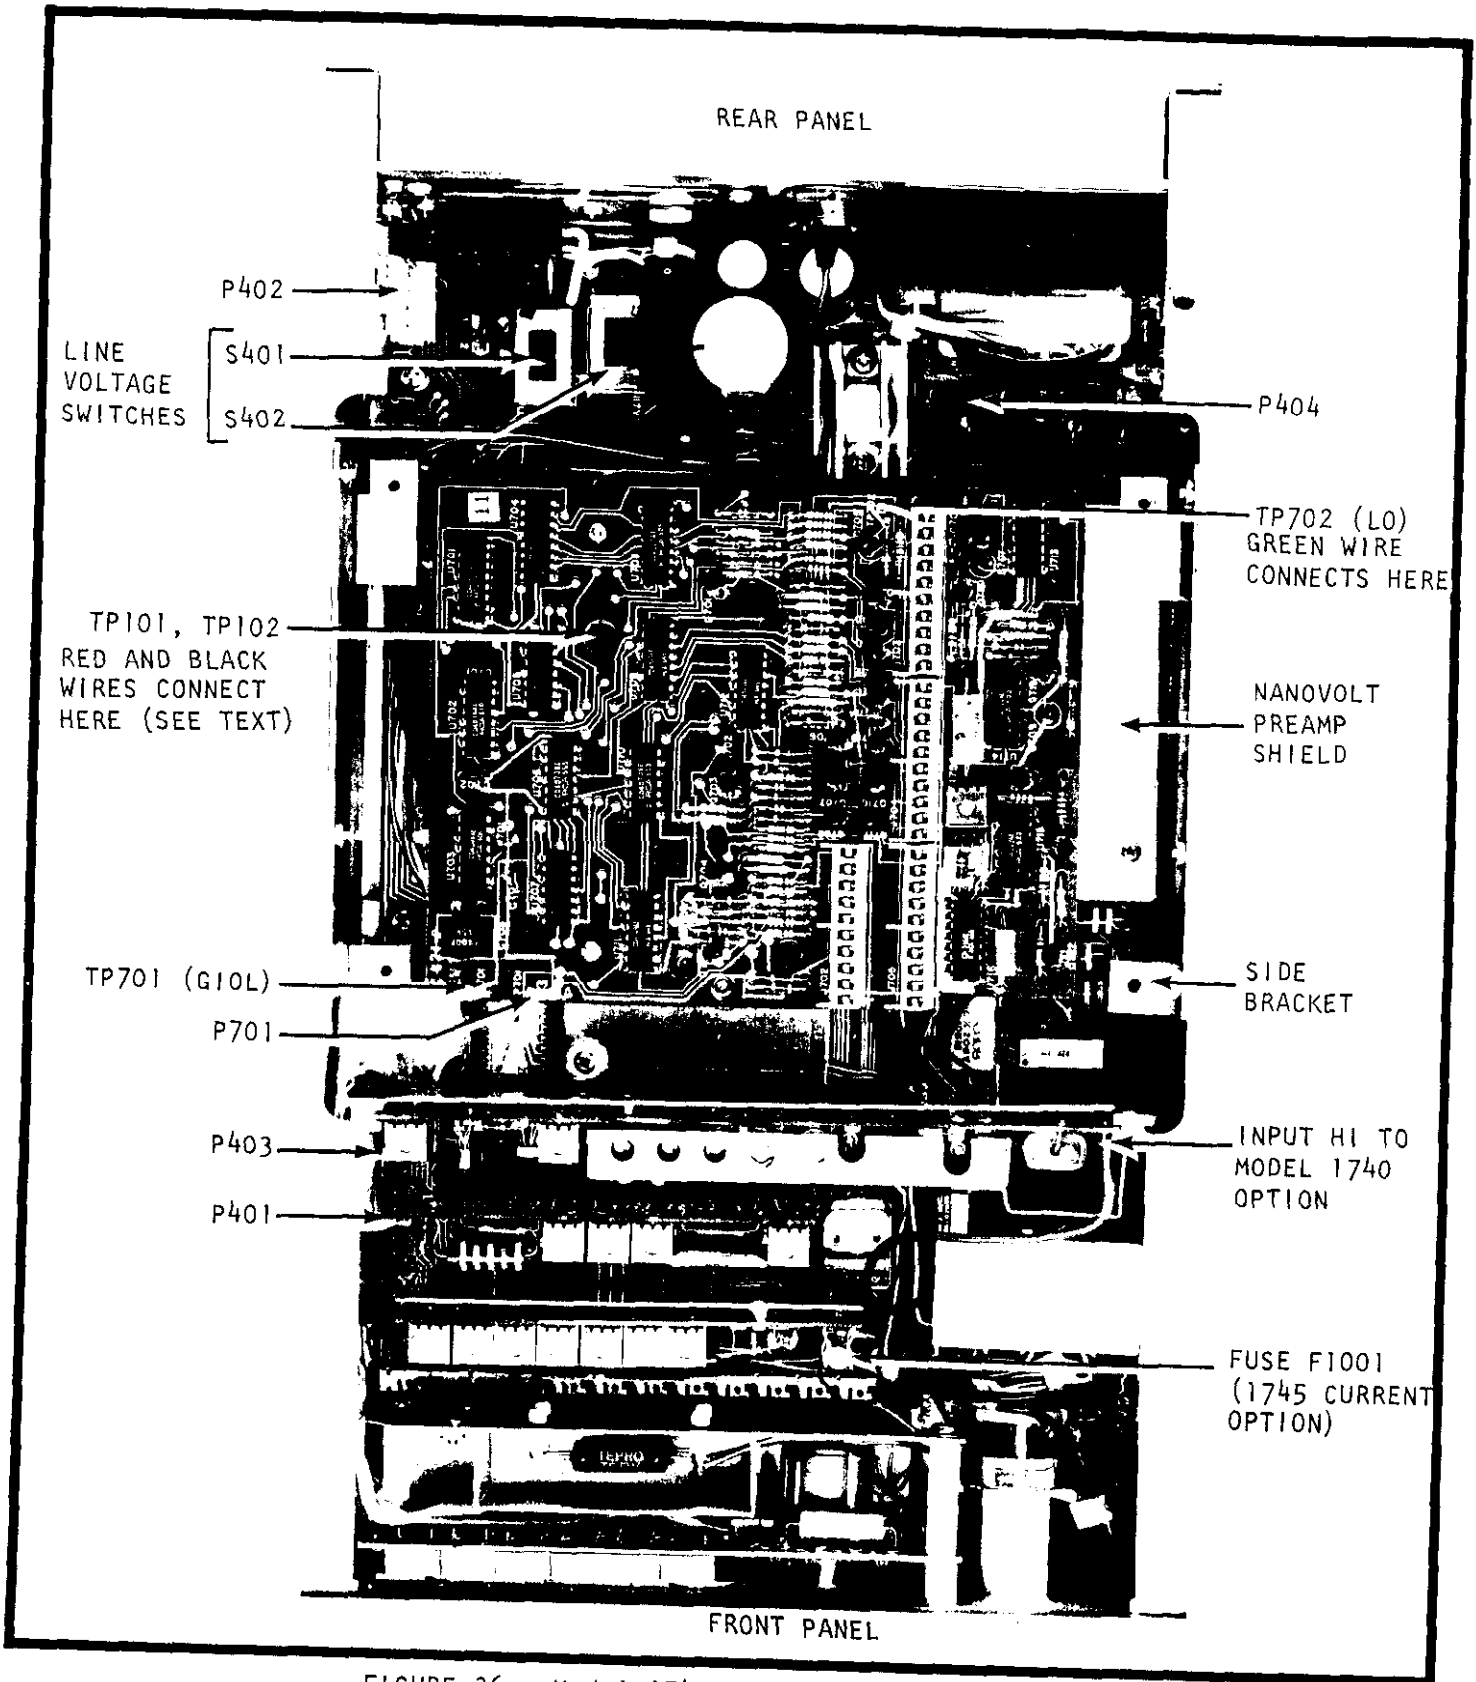

FIGURE 36. Model 174 Top View With Cover Removed.
- a) Connect the single green wire to Test Lead TP702 (Power Supply Common) shown in Figure 36.
- b) Connect the 2-wire test lead (red, black) to test points TP101/TP102 shown in Figure 36. The red lead is positioned on the left side of the instrument (TP101) as viewed from the front panel.